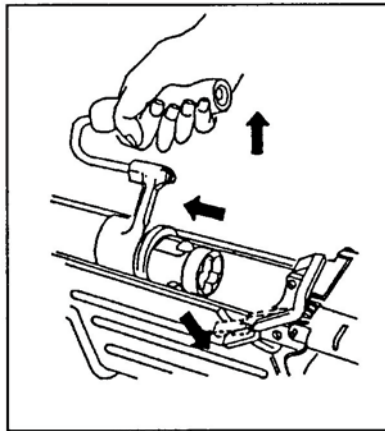

Figure 7. Removal of the barrel.
- d. Remove the barrel (Figure 7).
- (1) Ensure the folding handle on the new style barrel is in carrying (up) position.
- (2) Depress the barrel locking lever with your left hand. Grasp and lift the carrying handle with your right hand. Push the barrel forward.